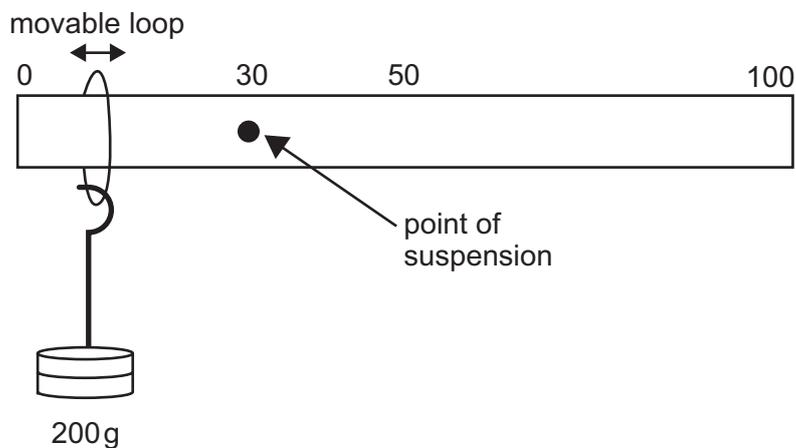

Fig. 2.2
- (b) The metre rule is suspended from a retort stand at a point away from its centre of mass. Attach the mass hanger to the loop of string and move the loop until the metre rule is balanced horizontally, as shown in Fig. 2.2.